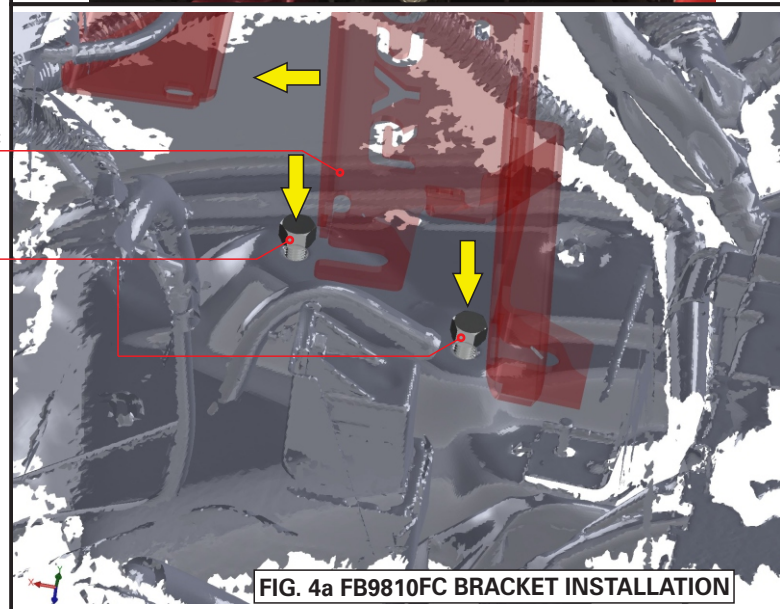

FIG. 4a FB9810FC BRACKET INSTALLATION
7. Half screw in 2 of the OEM M8 bolts saved from the previous steps in to the base mounting point as shown in Fig. 4a. (Screw in enough to allow Ryco FB9810FC bracket to slide in).